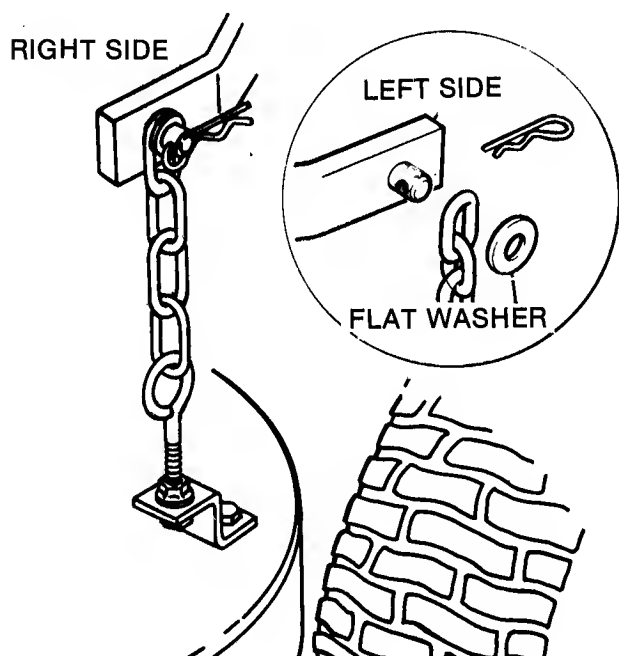

FIG. 20 - REAR LIFT ARM
5. Place implement lift lever in lowest position (full forward), raise deck and secure to rear lift arm bracket with washer and small hairpin. (Fig. 20)